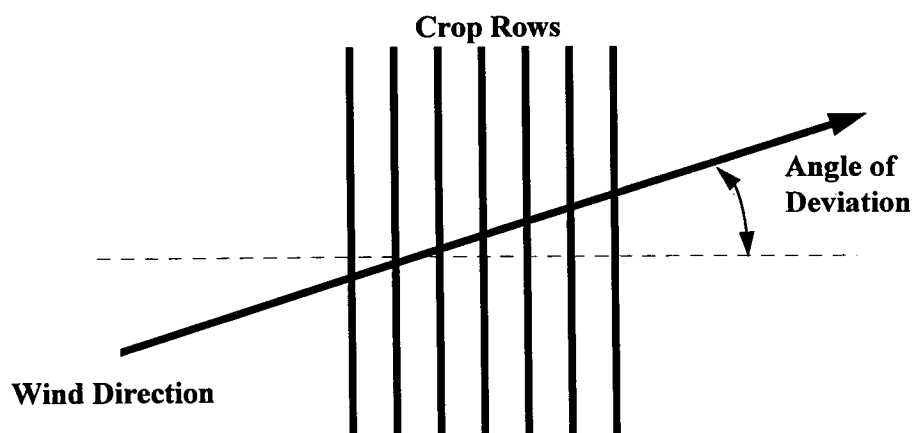

Figure 9. Illustration of Angle of Deviation
Ridge Roughness (**Krd**) equal to 0.8 or less will be designed using the procedure in this specification. **Krd** less than 0.8 is not cross wind ridging. **Krd** is read from one of five graphs listed in the Exhibit 502-4 of the National Agronomy Manual (NAM) or calculated using the NM Cross Wind Ridging Jobsheet. The graphs are included in this specification. **Krd** is read from the graphs using **Kr** (old ridge roughness), the I of the soil, and the angle of the wind deviation from perpendicular (0, 22.5, 45, 67.5, or 90 degrees of perpendicular). Figure 9 illustrates how wind deviation is measured. The wind preponderance is used in the excel spreadsheet NM Cross Wind Ridging Jobsheet (electronic version of the design). Both the hand method and the electronic version give approved results. The hand method does not correct for preponderance.
The angle of deviation is illustrated by the following (figure 9):
Step 1 Determine the Angle of Deviation for the field (0, 22.5, 45, 67.5, or 90 degrees of perpendicular). See Figure 9.